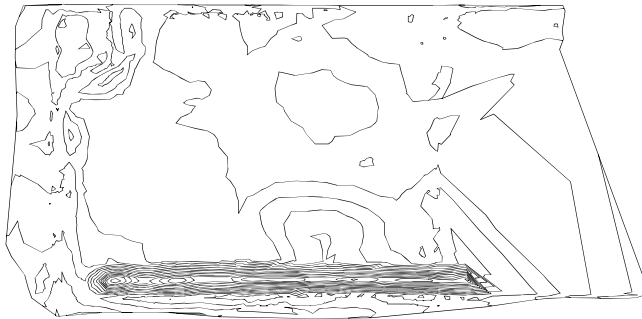

Figure 3-61 The **EG Surface** displayed in the drawing area
1. Enter **ZE** in the command line and then press ENTER; the surface is displayed with a surface border and the major and minor contours, as shown in Figure 3-61. This is due to the default surface style settings of the template file.